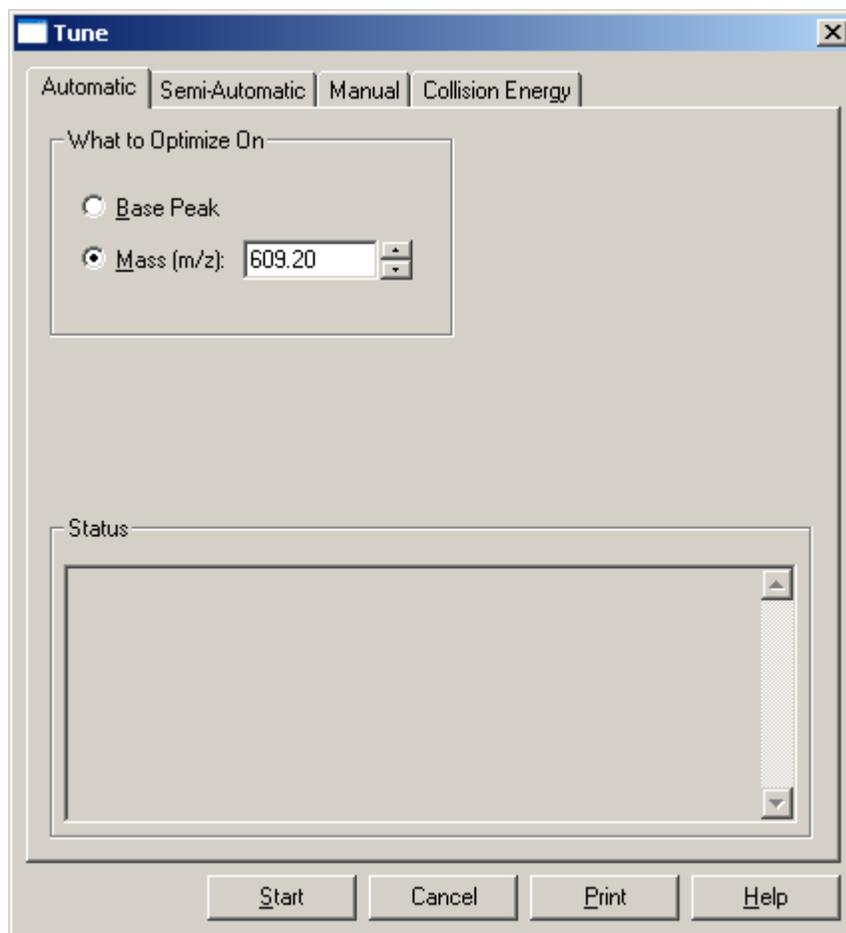

Figure 60. Tune dialog box, showing the Automatic tuning page
1. On the Control/Scan Mode toolbar, click **Tune** to display the Automatic tuning page. See Figure 60.